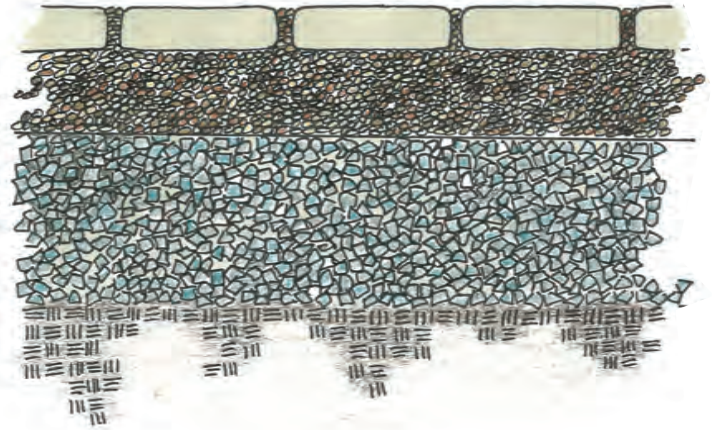

Figure 1. Pervious walkway profile.
- b. Sub-base materials (Figure 1) are the gravel and pea stone layers that go under the pavers. These materials provides a reservoir for stormwater before it soaks into the ground underneath. You should have a minimum depth of 12" of 1 $\frac{1}{2}$ " diameter crushed stone and 6" of  $\frac{3}{8}$ " pea stone for your sub-base. Use the following equations to determine the amount of sub-base materials you will need (multiplying by 0.037 converts cubic feet to cubic yards):